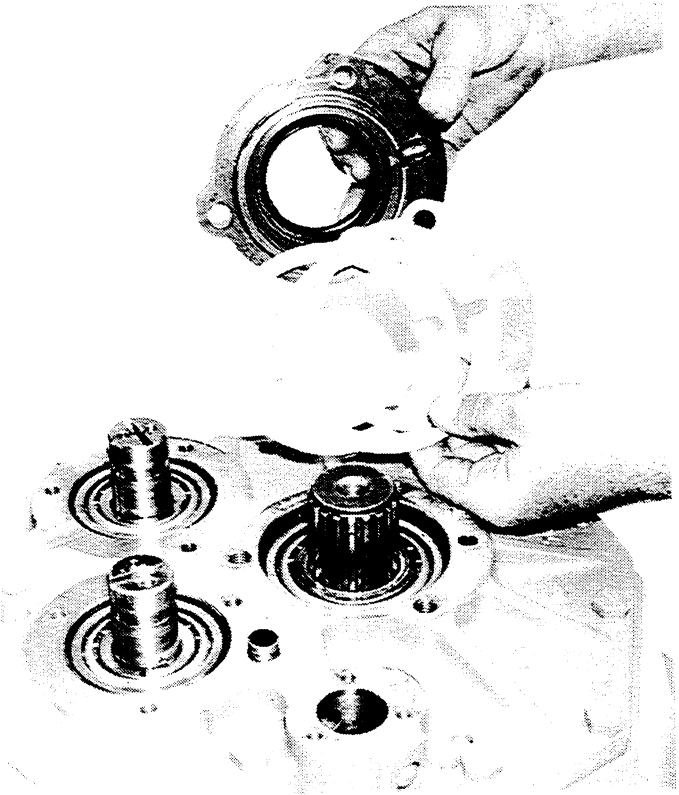

Figure 6-7. Output Shaft Bearing and Shims Removed.
16. Remove the three hex-head cap screws (Figure 12-2, 24) that secure the bearing retainer (23) to the rear cover. Remove the bearing retainer and the bearing retainer shims (22) from the rear cover. See Figure 6-7. Remove the bearing retainer oil seal (Figure 12-2, 25) from the bearing retainer. Discard the oil seal.